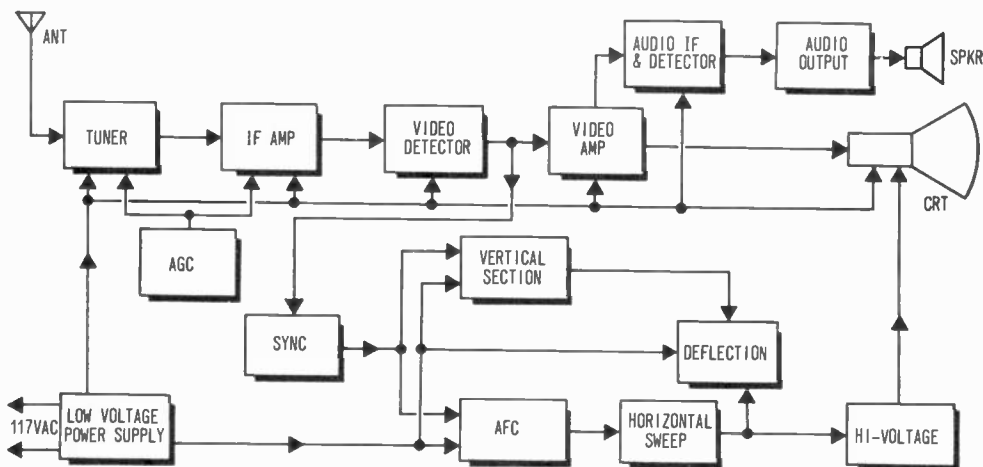

Fig. 1. Block diagram of standard TV set is useful when attempting to track down power supply troubles.
Fig. 1. Color sync circuits are enclosed in dotted line. To maintain correct color on screen, both frequency and phase of 3.58-MHz Oscillator is locked-on to station signal.
**A Trip On AFPC.** In Fig. 1 is a block diagram of major stages for color sync. This is the set's AFPC, or Automatic Frequency Phase Control system. As the name implies it controls both frequency and phase of the receiver's locally generated subcarrier. Actually, frequency and phase are mostly a matter of degree. When the oscillator is a few dozen cycles above or below 3.58 MHz the system may be considered controlling frequency.
to get into step, the control system operates on the more precise level of phase; that is, both signals must begin at zero at exactly the same instant, then alternate through 360 degrees together. Unless locking action is total, picture hues may shift toward the green or purple end of the scale. Major functions of the color-sync section, blocked in Fig. 1, are as follows.
To sum up the overall action of Fig. 1: an incoming burst signal is compared with the local 3.58 Oscillator at the outset. The Phase Detector senses error between the two, then operates the Reactance Control. Capacity changes then re-tune the 3.58 Oscillator until it is on the exact subcarrier frequency. Note that the oscillator produces a continuous signal, though it is being controlled by the burst.
**No Nothing.** This symptom is the easiest trouble of all to correct. Let's take a look at the block diagram in Fig. 1. We see that practically every stage gets power from the low-voltage power supply. Let's begin right here.